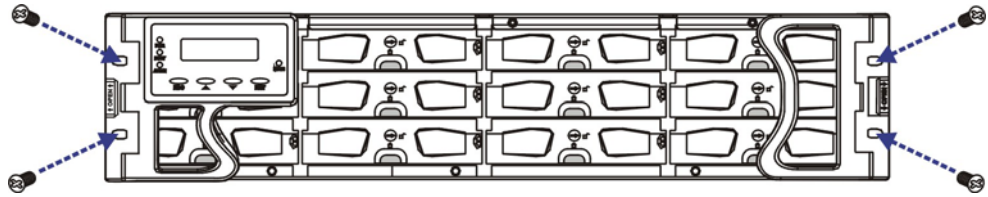

Figure 2-3: Front Ear Holes
- Use M5 or M6 pan-head screws to secure the chassis to the front cabinet posts. The front ear holes are shown in *Figure 2-3*.